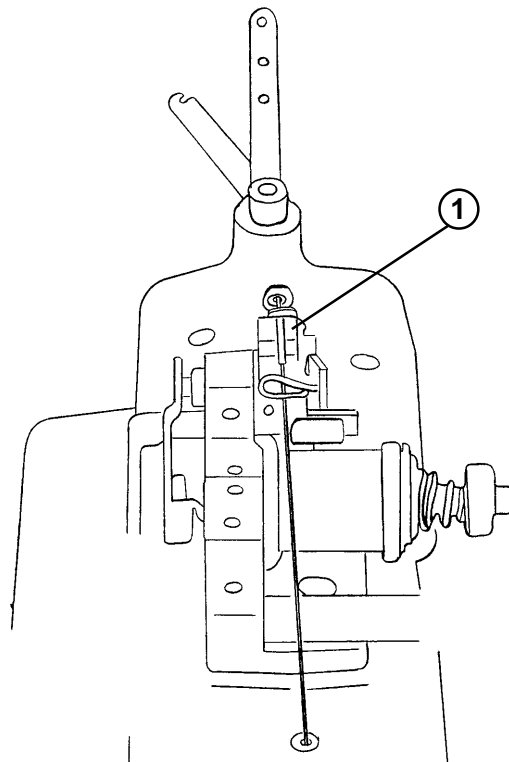

FIG. 3-19
G. To set the Thread Nipper. With the machine still in the punch position, insure that the thread nipper (Fig. 3-19, Item 1) is completely closed and that the thread can not pull through it.